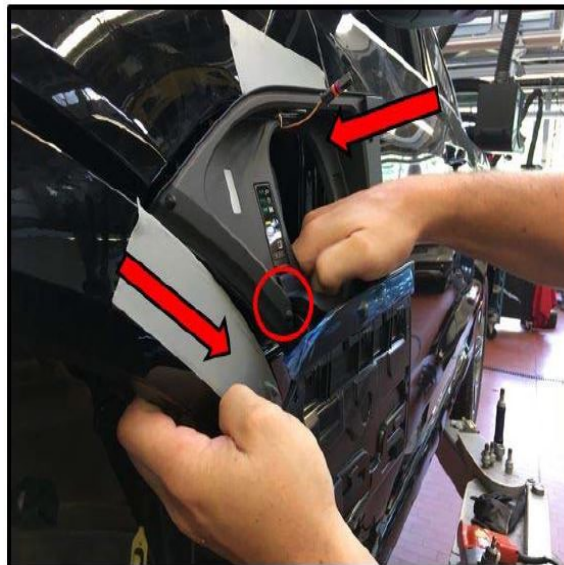

Figure 19: Charging door installation.
1. Carefully fit charging door unit, [pressing the wheel arch extension slightly outwards to do so. We recommend inserting the charging door in the area of the red circle first (Figure 19).